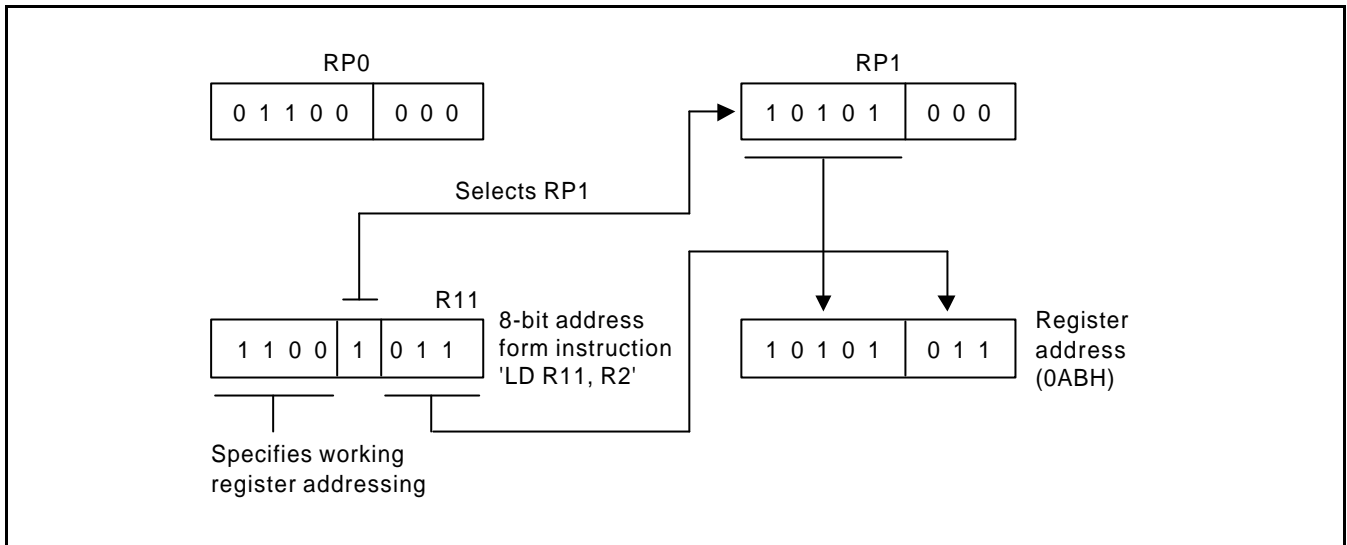

Figure 2-14. 8-Bit Working Register Addressing Example
Figure 2-14 shows an example of 8-bit working register addressing. The four high-order bits of the instruction address (1100B) specify 8-bit working register addressing. Bit 3 ("1") selects RP1 and the five high-order bits in RP1 (10101B) become the five high-order bits of the register address. The three low-order bits of the register address (011) are provided by the three low-order bits of the 8-bit instruction address. The five-address bits from RP1 and the three address bits from the instruction are concatenated to form the complete register address, 0ABH (10101011B).